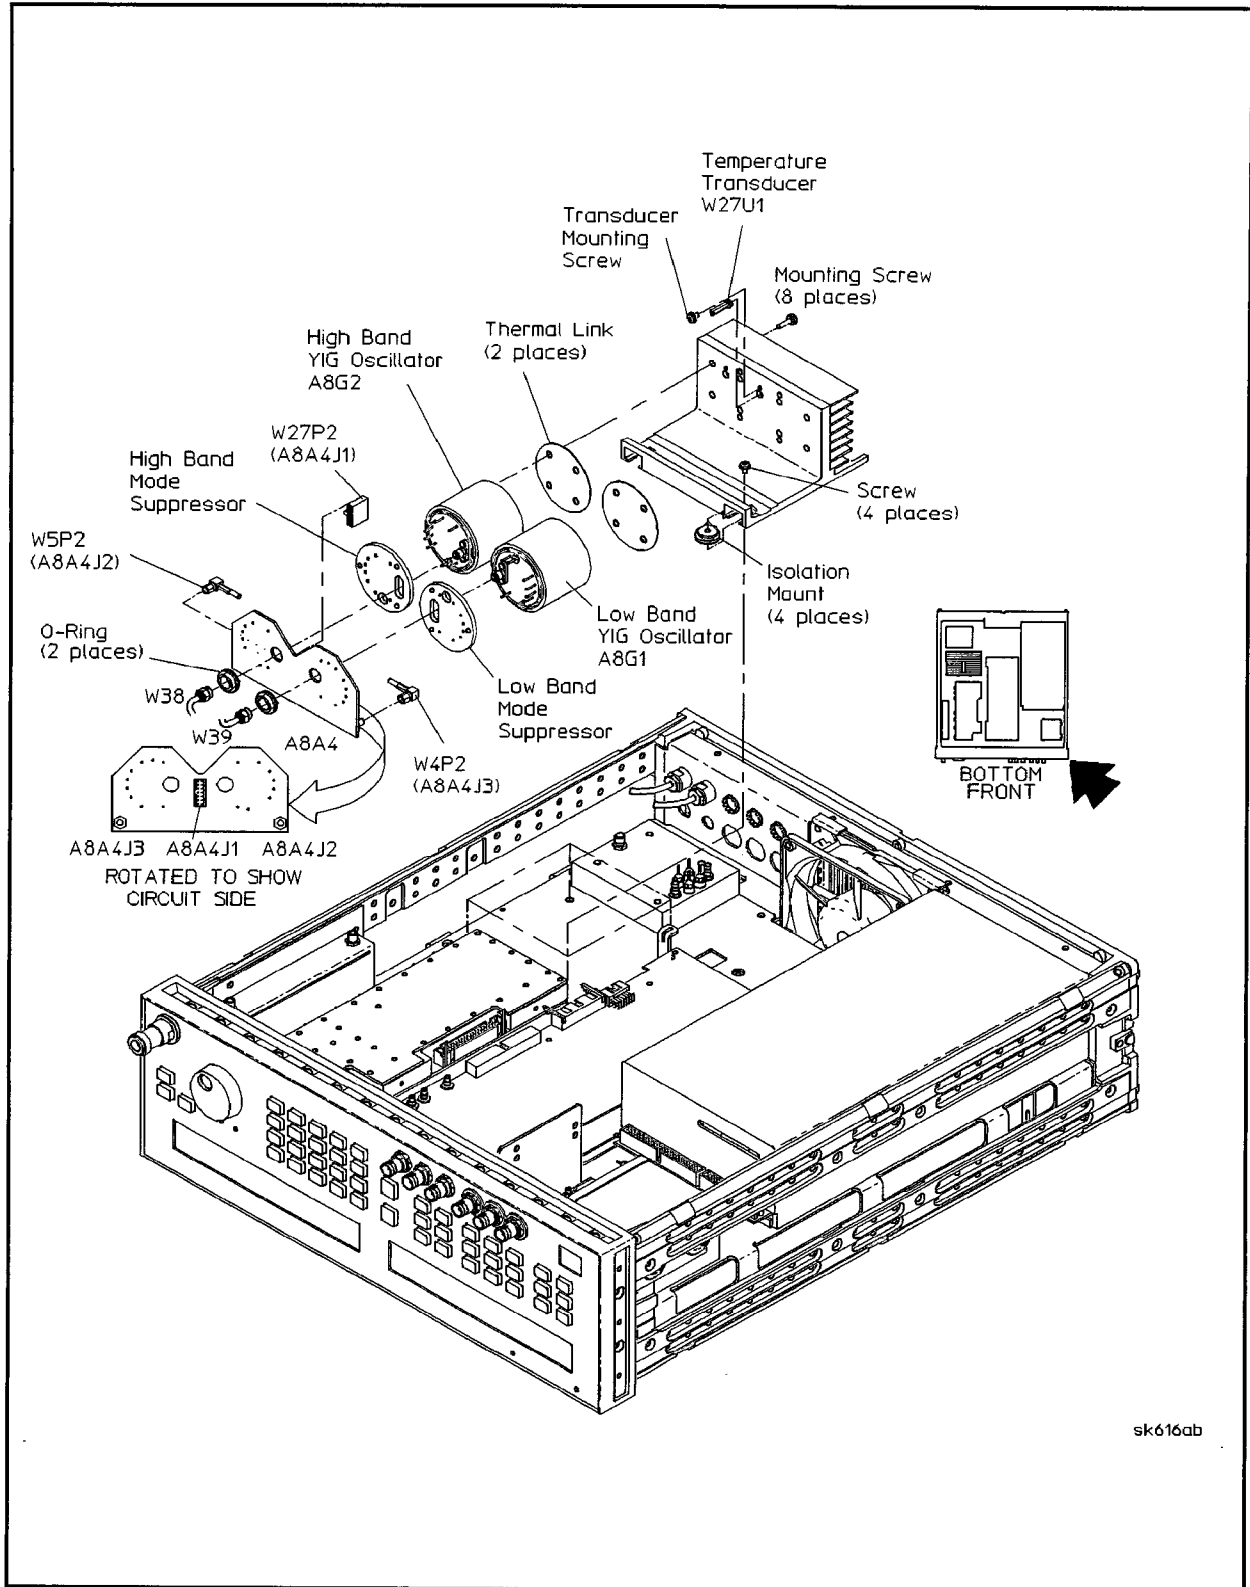

Figure 5-33. YIG Oscillator Removal
3. In the "Special Techniques" section of this chapter, refer to "Semi-Rigid Coaxial Cables" and Figure 5-33. Then, using a 5/16 in open end wrench, remove the following two semi-rigid coaxial cables connecting the YIG oscillators to the output module:
5. Lift up W19 (step attenuator grey ribbon) cable in order to expose two of the four isolation mounts and heatsink mounting screws. See Figure 5-33.
6. Using a size 15 TORX® screwdriver, remove these four screws. See Figure 5-33.
8. Using a *slight* side to side rocking motion, carefully loosen and pull off the printed circuit board, A8A4, from the YIG Oscillators. See Figure 5-33.
10. Using a 7/64 inch Posidriv® screwdriver, remove the four oscillator mounting screws from the YIG Oscillator and Heatsink. Refer to Figure 5-33.
12. Refer to “Semi-Rigid Coaxial Cables” as well as Figure 5-33 and then connect the following:
3. In the "Special Techniques" section of this chapter, refer to "Semi-Rigid Coaxial Cables," Figure 5-33, and then remove cable W39 from low band oscillator output A8G1J1 and output module 2-10 GHz IN, A8A1J36.